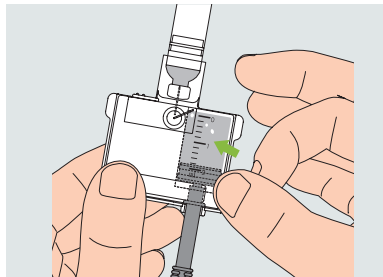

Figure 23
4. Tap the side of the reservoir to encourage any air bubbles to rise to the top of the reservoir (Figure 23).